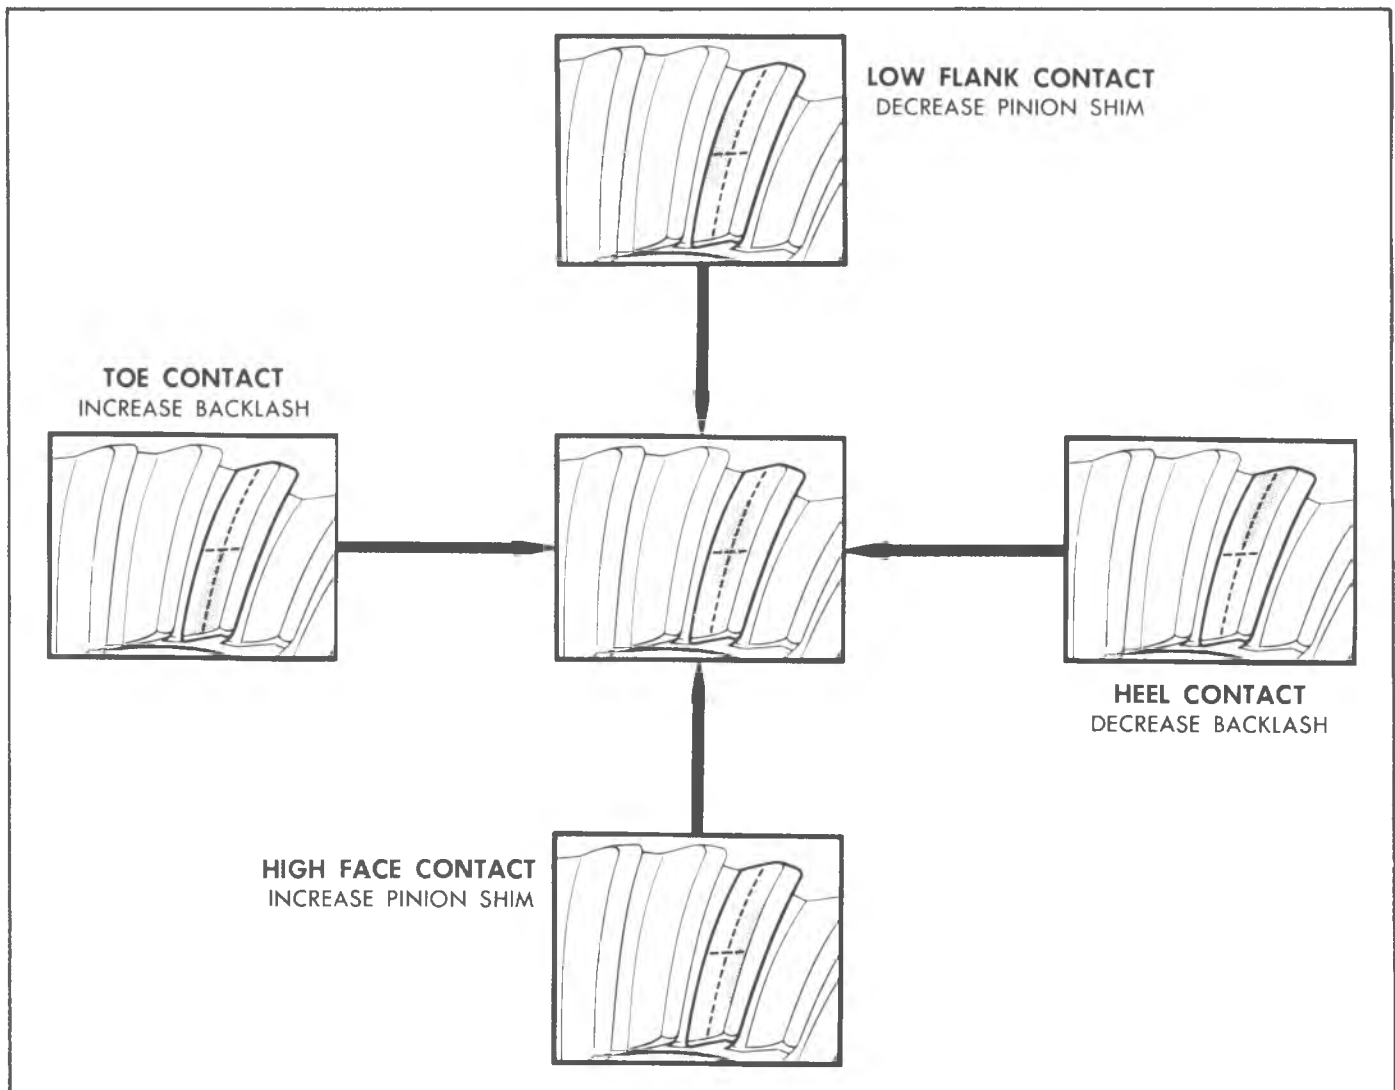

Fig. 12—Gear Tooth Contact Pattern
5. Observe pattern on ring gear teeth and compare with Figure 12.